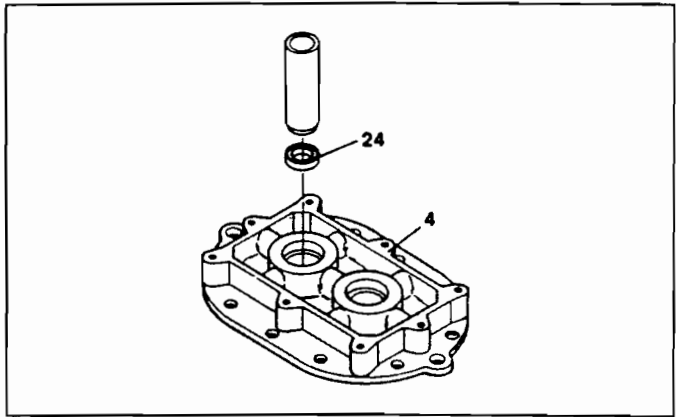

FIGURE A-1
Thoroughly clean the bearing and seal pockets in both end plates (4). Apply a thin coat of sealant on the outside diameter of the new seals (24) and press them into the back end plate using a round tube with recessed end that will bear on the outer metal edge of the seal. (Refer to Figure A-1.) Seals should be flush with the outboard bore face with seal lips pointing outward. Apply a thin coat of oil or grease to the seal lips.